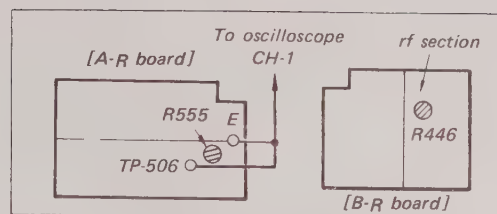

Fig. 8-10. Color balance adjustment test setup
1. Connect the scope to TP-506 on the A-R board. See Fig. 8-10.